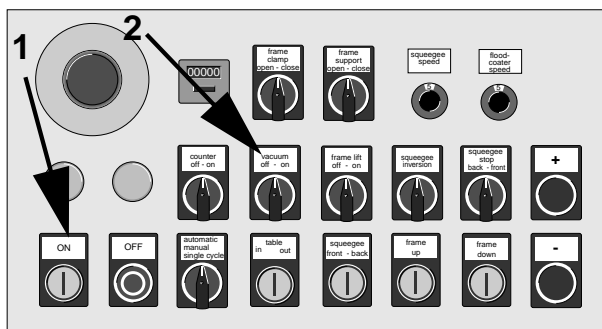

Figure 3-4. Control panel
- \* Push the **ON** button (1, Figure 3-4). The indicator of the button lights up.
- \* Turn the vacuum motor briefly on and off again (2, Figure 3-4).